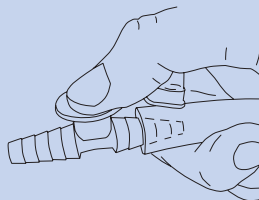

Fig. 25
2. Keep the opening of the suction tube (fig. 2 (J)) and the fingertip (fig. 25) shut.